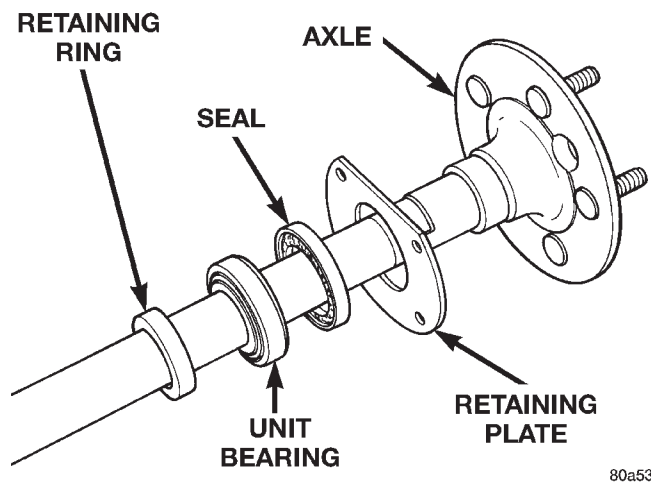

Fig. 28 Axle Bearing and Seal Components
- (1) Using a suitable straight edge, verify flatness of axle shaft retaining plate. Replace plate if warped.
- (2) Install retaining plate on axle (Fig. 28).
- (3) Apply a coat of multi-purpose grease on sealing surface of axle seal.
- (4) Install seal on axle with cavity away from retaining plate (Fig. 28).
- (5) Lubricate bearing with Mopar® Wheel Bearing Grease, or equivalent. Wipe excess grease from outside of bearing.
- (6) Slide bearing onto axle shaft with groove in outer surface toward seal (Fig. 28).